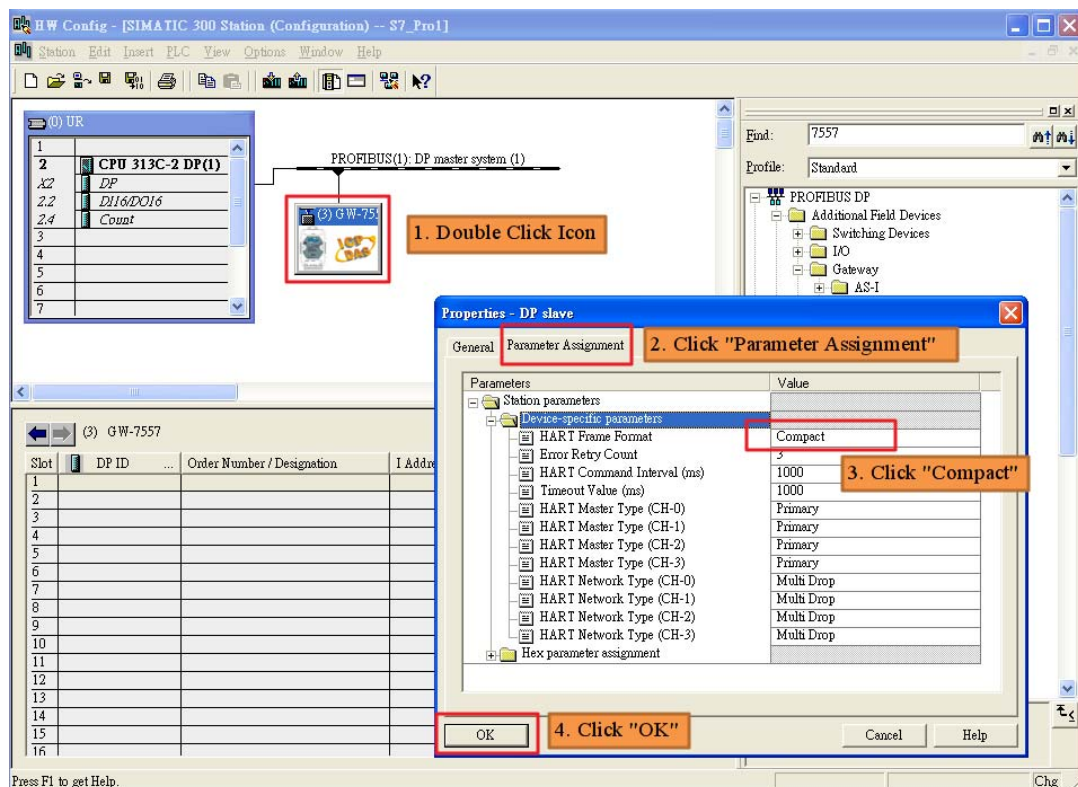

Figure 34 Parameter settings of GW-7557
Step 3: Set the parameters of the GW-7557. We just need to change “HART Frame Format” to Compact and the default setting is being used in the other parameters for this example. Please refer to section 4.3 the Configuration of the common parameters. The users can set parameters as shown in the below (*Figure 34*).